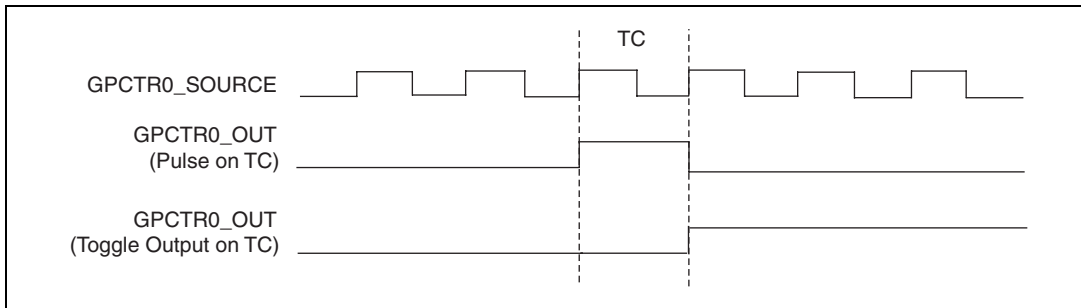

Figure 4-32. GPCTR0_OUT Signal Timing
This signal is available only as an output on the GPCTR0_OUT pin. The GPCTR0_OUT signal reflects the terminal count (TC) of general-purpose counter 0. You have two software-selectable output options—pulse on TC and toggle output polarity on TC. The output polarity is software selectable for both options. This output is set to high-impedance at startup. Figure 4-32 shows the timing of the GPCTR0_OUT signal.